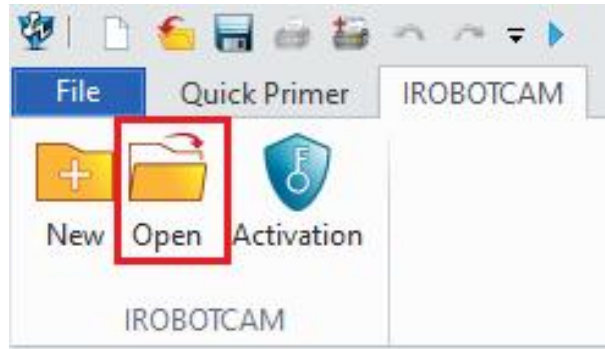

Figure 13-2: Open iRobotCAM project file
- Open iRobotCAM project file "Turntable.Z3" in IROBOTCAM.(Figure 13-2)